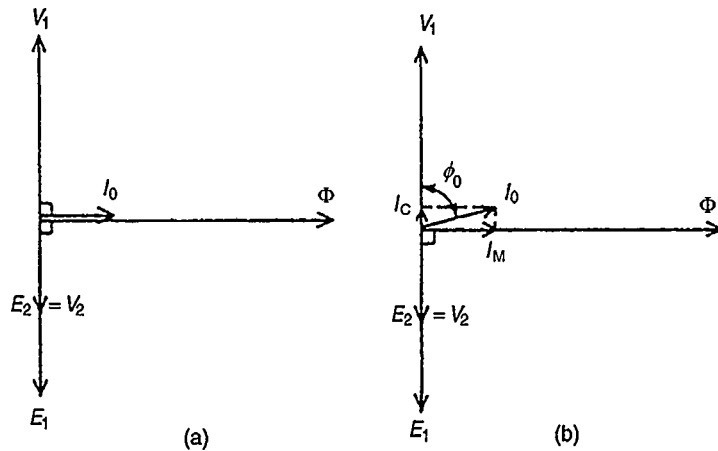

Figure 21.2
the primary winding takes a small no-load current I_0 and since, with losses neglected, the primary winding is a pure inductor, this current lags the applied voltage V_1 by 90° . In the phasor diagram assuming no losses, shown in Fig. 21.2(a), current I_0 produces the flux and is drawn in phase with the flux. The primary induced e.m.f. E_1 is in phase opposition to V_1 (by Lenz's law) and is shown 180° out of phase with V_1 and equal in magnitude. The secondary induced e.m.f. is shown for a 2:1 turns ratio transformer.
A no-load phasor diagram for a practical transformer is shown in Fig. 21.2(b). If current flows then losses will occur. When losses are considered then the no-load current I_0 is the phasor sum of two components — (i) I_M , the magnetising component, in phase with the flux, and (ii) I_C , the core loss component (supplying the hysteresis and eddy current losses). From Fig. 21.2(b):
- (c) From the right-angled triangle in Fig. 21.2(b) and using Pythagoras' theorem, $I_0^2 = I_C^2 + I_M^2$ from which, magnetising current,